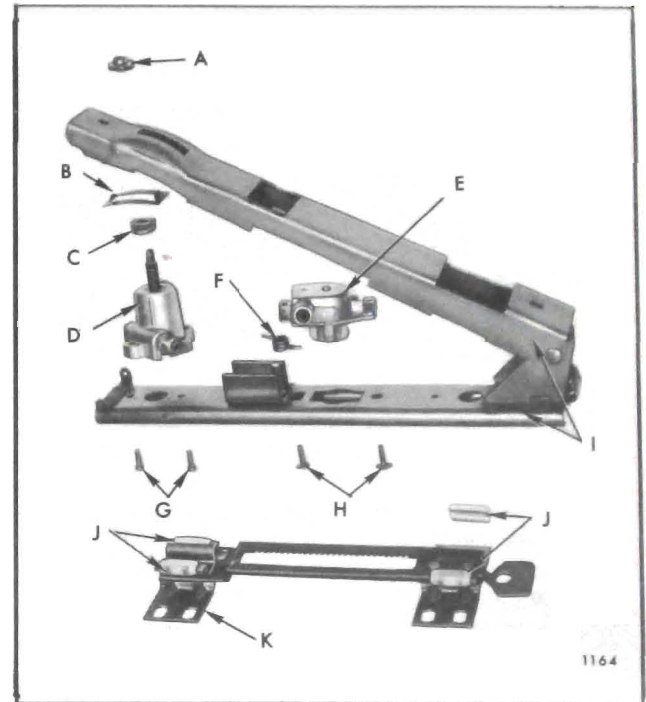

Fig. 15-12 — Four-Way Seat Adjuster Components -
3. Remove screws securing horizontal actuator assembly to adjuster lower track; then, remove actuator from adjuster assembly (Fig. 15-12).